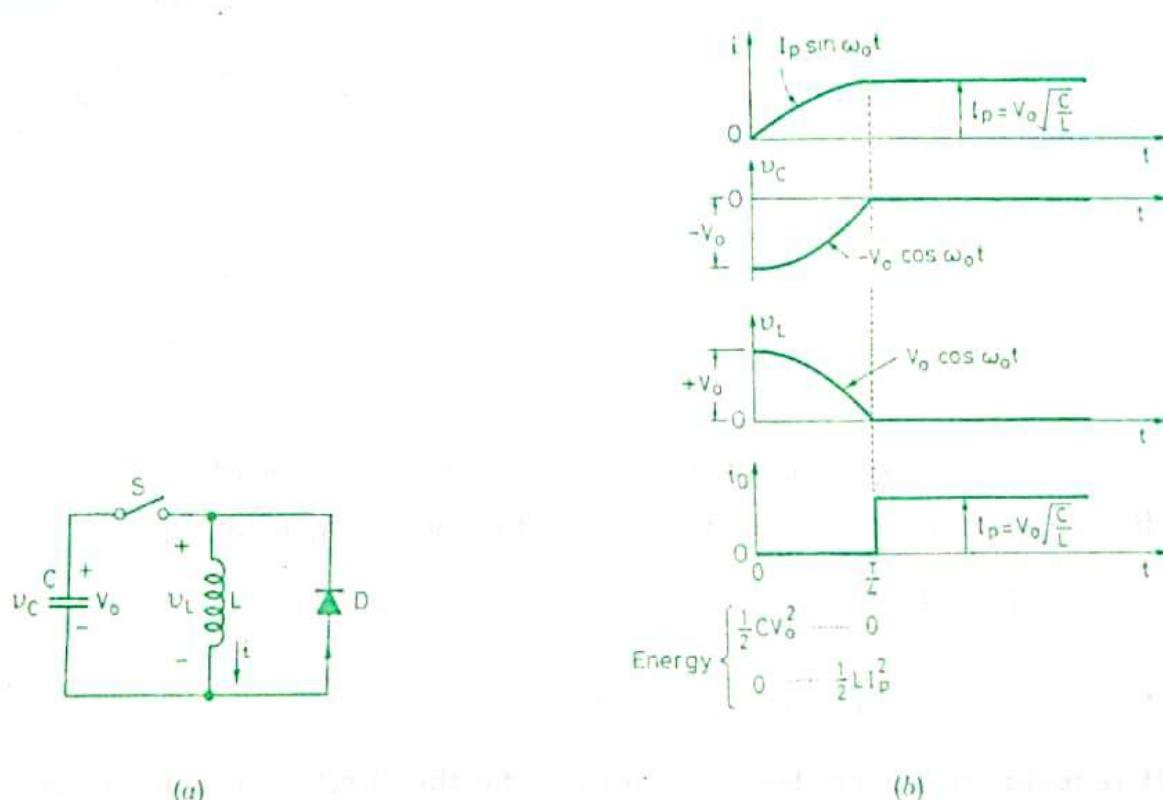

Fig. 3.8. Pertaining to Example 3.4 (a) circuit diagram and (b) waveforms.
**Example 3.4.** In the circuit shown in Fig. 3.8 (a), capacitor is initially charged to voltage  $V_0$  with upper plate positive. Sketch waveforms of  $i$ ,  $v_C$ ,  $v_L$  and  $i_D$  after the switch S is closed.
The waveforms for  $i$ ,  $v_C$ ,  $v_L$  and  $i_D$  are shown in Fig. 3.8 (b). At  $t = 0$ , energy stored in  $C$